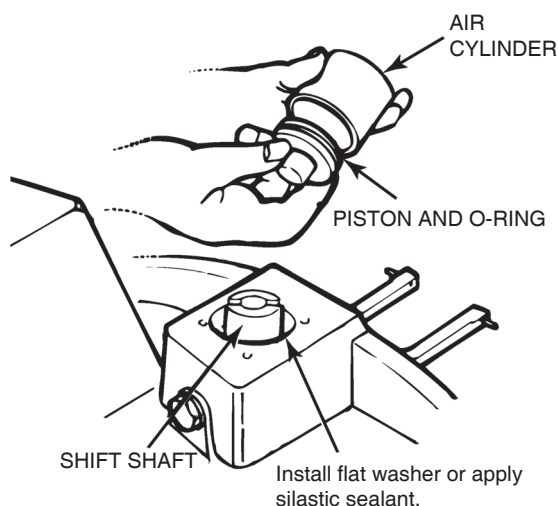

Figure 6.28
8. Install the copper gasket or apply silastic sealant, Meritor part number 1199-Q-2981, to the bottom of the cylinder bore. Figure 6.28.
9. Lubricate the O-ring with axle lubricant. Install the O-ring into its groove on the piston. Carefully install the piston into the air cylinder. Figure 6.28. Do not damage the O-ring.